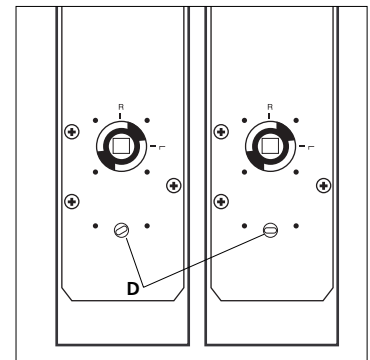

Figure 8
- 6) With a screwdriver, rotate the override cam (D) on the inside housing counter clockwise, until it stops. Then return it to the horizontal position (see Figure 8).